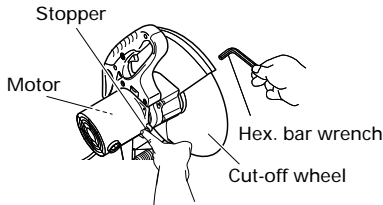

Fig. 1
1. Dismounting the cut-off wheel (Fig. 1)